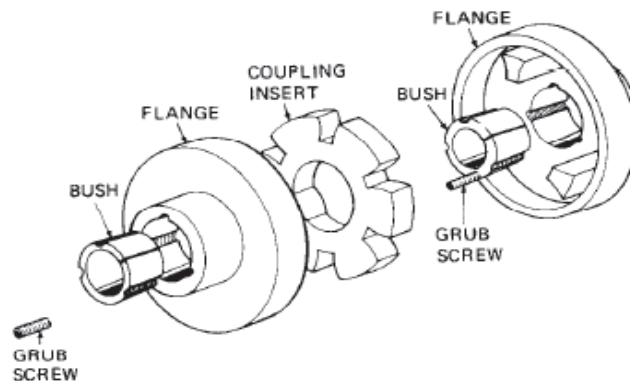

Figure 10 Fenner Coupling – Exploded View
36. The Fenner coupling transfers the drive from the hydraulic motor to the water pump (Figure 10). The coupling comprises two flanges which are secured to the motor and pump shafts by bushes. The two flanges are interconnected by a flexible coupling insert. The Fenner coupling requires no lubrication or regular maintenance.